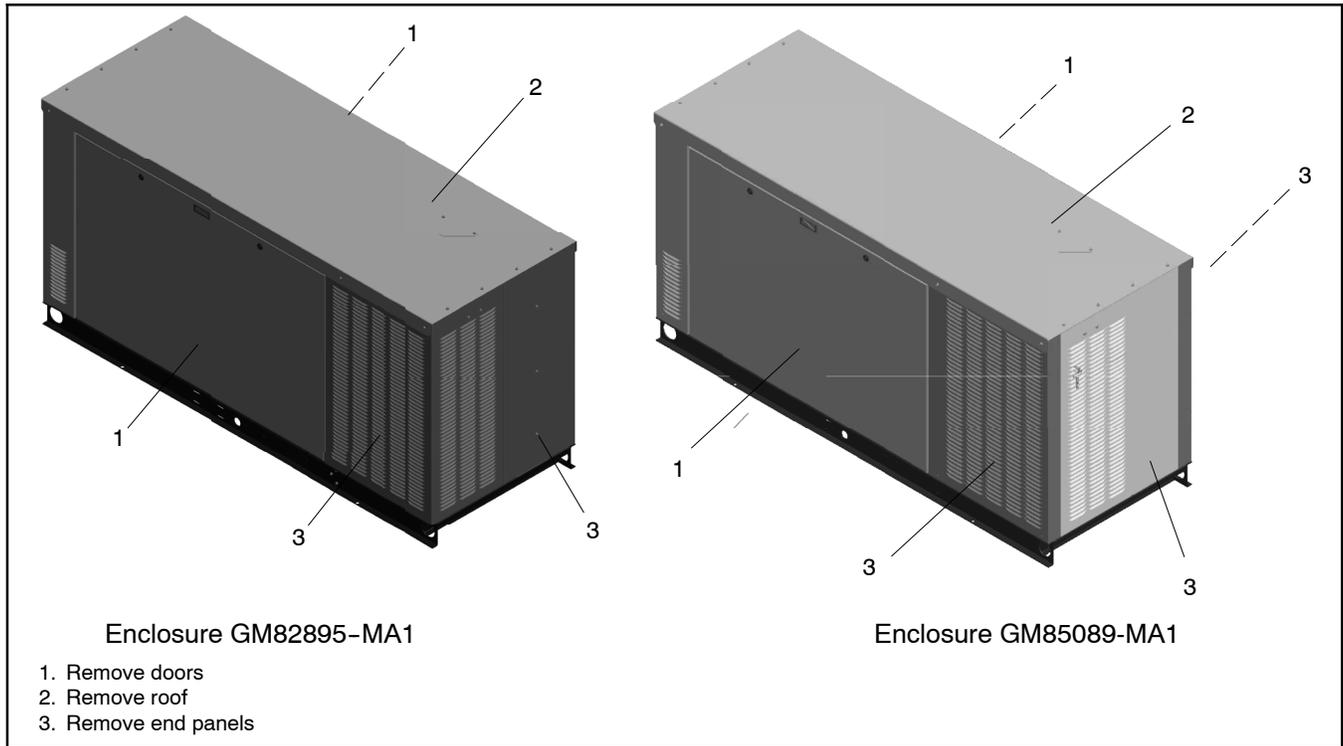

Figure 1 Enclosure
- 2.2 Remove doors, roof, and side and/or end panels as necessary to access the radiator. See Figure 1.